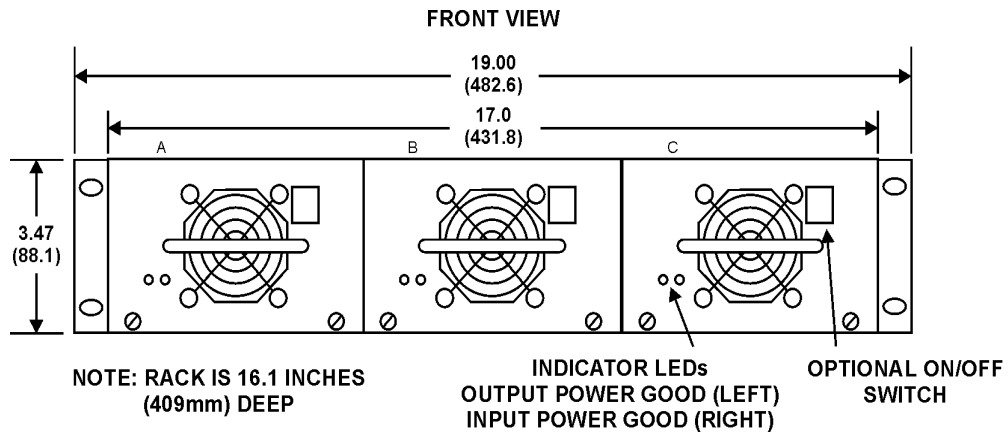

Figure 4. Front View of Mating 19-Inch Rack
- 8.2** Figure 4 shows the mating 19-inch rack mount with three hot-swap modules. The rack is 2U (3.47 inches) high and 16.1 inches deep. The modules are secured in the rack by two captive thumbscrews on each module. All connections to the rack are made at the rear with connectors and bus bars on the back of the circuit board. The main output (V1) connection is made to bus bars with 0.25-inch holes or alternatively to a Positronics 24-pin connector.